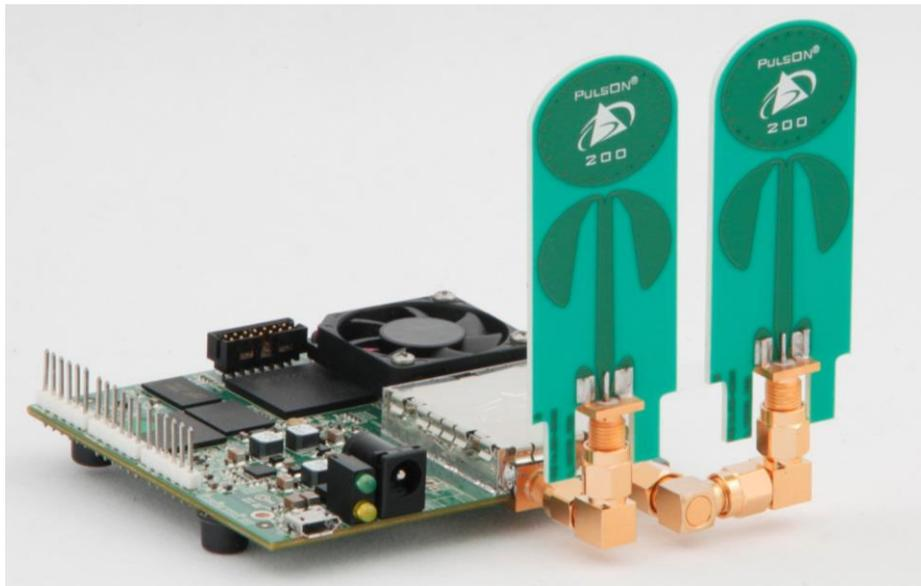

Fig. 3: P410 MRM with pair of Broadspec antennas
The P410, shown in **Figure 3**, is a small, low-power and affordable monostatic radar platform that provides more than one gigahertz (GHz) of radio frequency (RF) bandwidth at a center frequency of approximately 4 GHz. The device is intended for use as an OEM module. When used as a radar sensor, it is typically referred to as a P410 MRM.